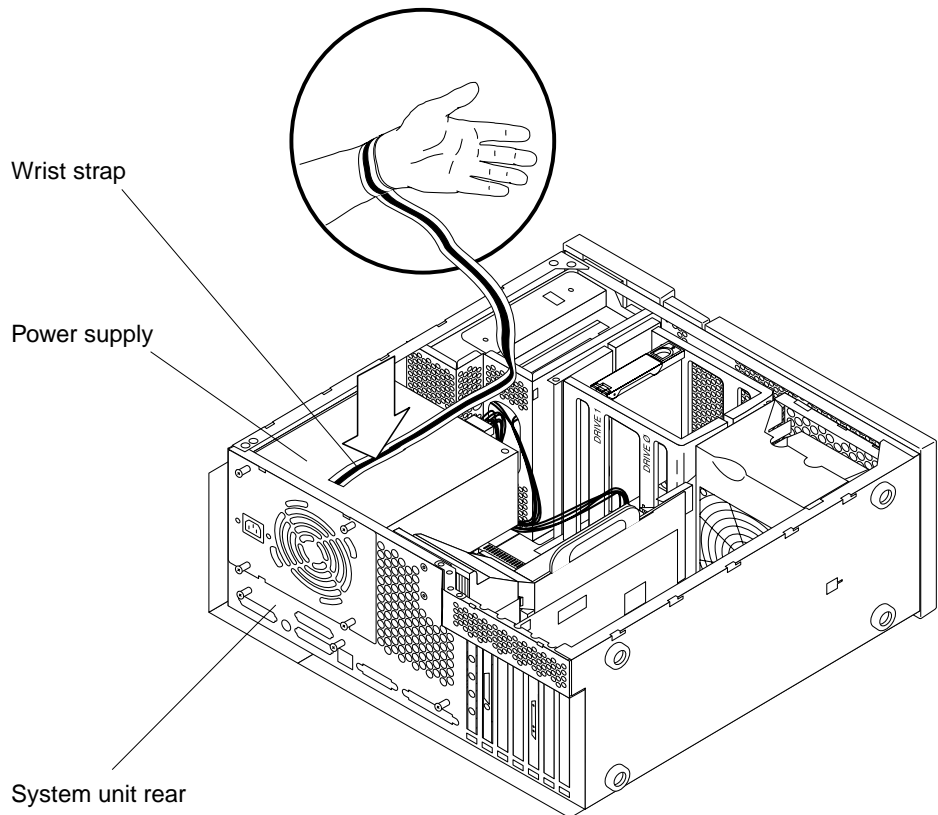

FIGURE 1-5 Attaching the Wrist Strap to the Power Supply
3. Attach the copper end of the wrist strap to the power supply top (FIGURE 1-5).